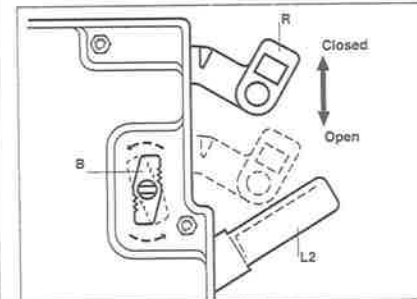
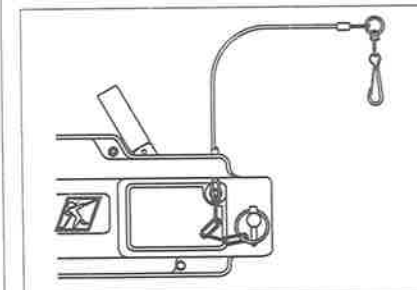

Fig. 3
Fig. 4 Anchor locking pin in locked position
- 2- Tilt the machine until it rests vertically on its anchor pin end. Turn the lock button B. Push the rope release lever (R) firmly forward towards the anchor pin end, until it locks itself into open position (see Fig. 3). Both pairs of jaws are now open.
- 3- Now, place the machine horizontally. Push both levers (L1) and (L2) towards anchor pin end. Insert the end of the rope through the rope entry (E) at the opposite end from the anchor pin end and push until it passes completely through the machine.
- 5- Position the machine and refit the anchor pin (P) through the eyes of the sling. Refit the anchor locking pin in locking position (see Fig. 4). Ensure that the rope passes beneath the anchor pin. Anchor the wire rope hook. Check that the hook latch is closed.
- 6- To close jaws on the wire rope, push the rope release lever (R) downwards and allow the release lever to return to initial position. Machine is now ready for use.
- 7- Place the handle (T) on lever (L1) to lift or pull, or on lever (L2) to lower or slacken the wire rope.
Before operating machine, check that the rope hook latch is closed and that the anchor pin is safely positioned and locked by the locking pin (see Fig. 4).